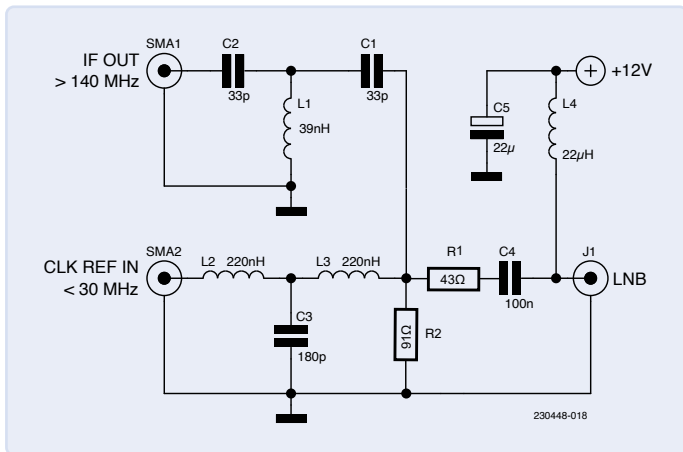

Figure 9: The triplexer circuit, without the HF transformer and with the addition of R1 and R2 in a minimum-loss-pad configuration.
**Figure 8a** and **Figure 8b** show my implementation of a triplexer with surface mount components and a Mini-Circuits ADT1.5-17+ transformer. Of course, the entire circuit can also be built using discrete components, and the transformer can be replaced with a minimum-loss pad (MLP) using a 43 Ω resistor in series with the 75 Ω side and a 91 Ω shunt resistor across the 50 Ω side, as shown in the modified schematic in **Figure 9**. Note, however, that this mod will result in a